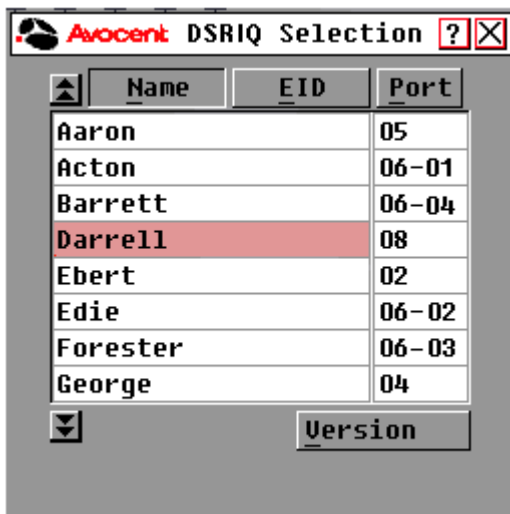

Figure 3.20: DSRIQ Selection Dialog Box
- To view individual DSRIQ module version information, click *DSRIQ* to open the DSRIQ Selection dialog box shown in Figure 3.20.